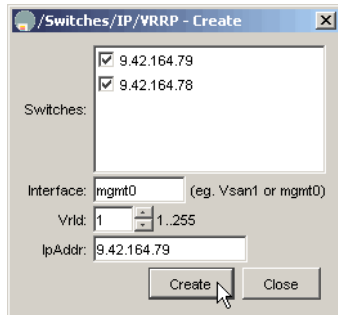

Figure 2-137 Creating IP address for VRRP for mgmt0
9. Fill in the interface, VRRP number, and IP address for the first VRRP group, as shown in Figure 2-137.